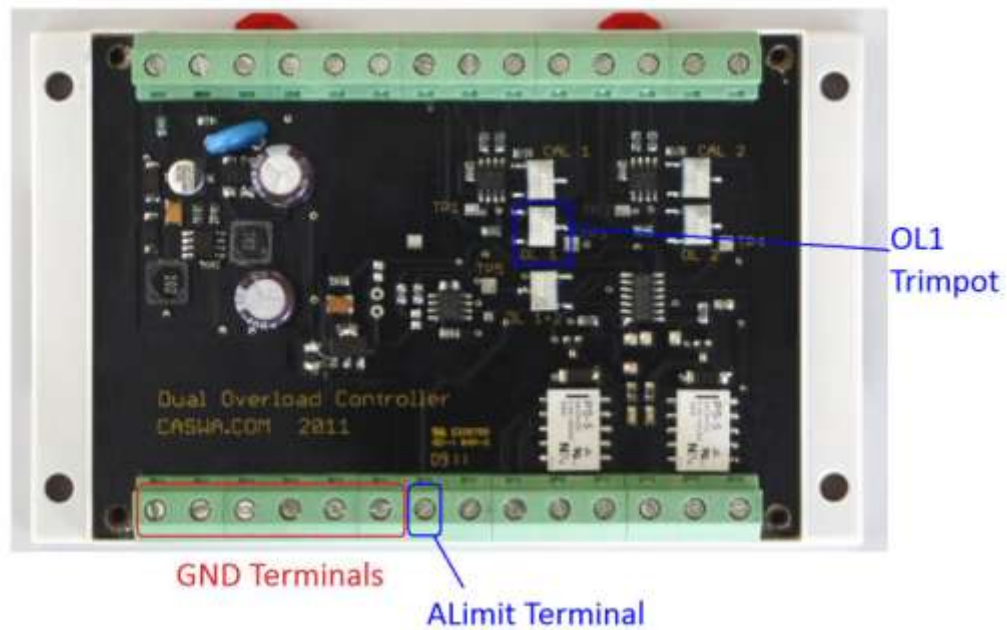

Figure 5: Setting the limit for Hoist A
3. Insert the positive probe into the ALimit terminal on LimitMate (Figure 5).